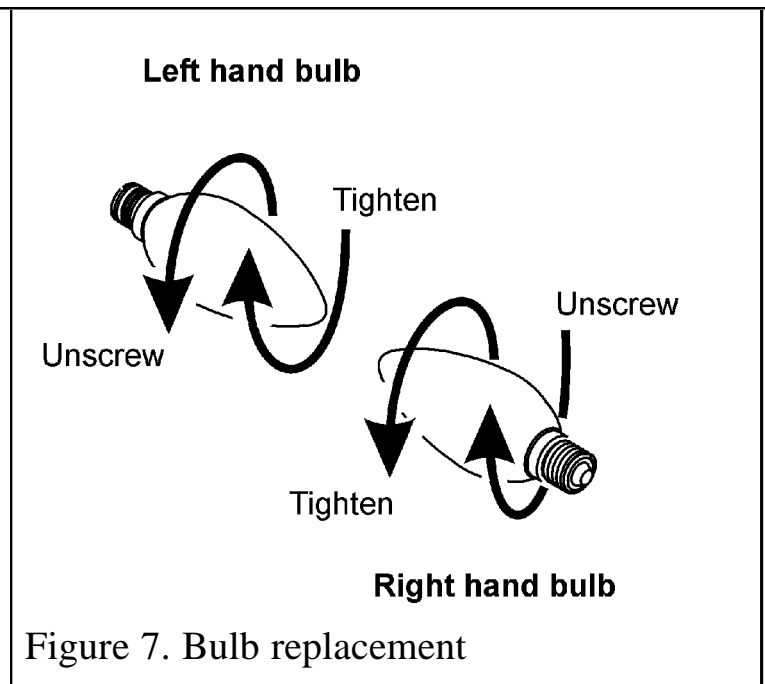

Figure 7. Bulb replacement
- Remove the faulty bulb by screwing the bulb anti - clockwise (See figure 7).
- Fit the new bulb by screwing it clockwise (See figure 7).